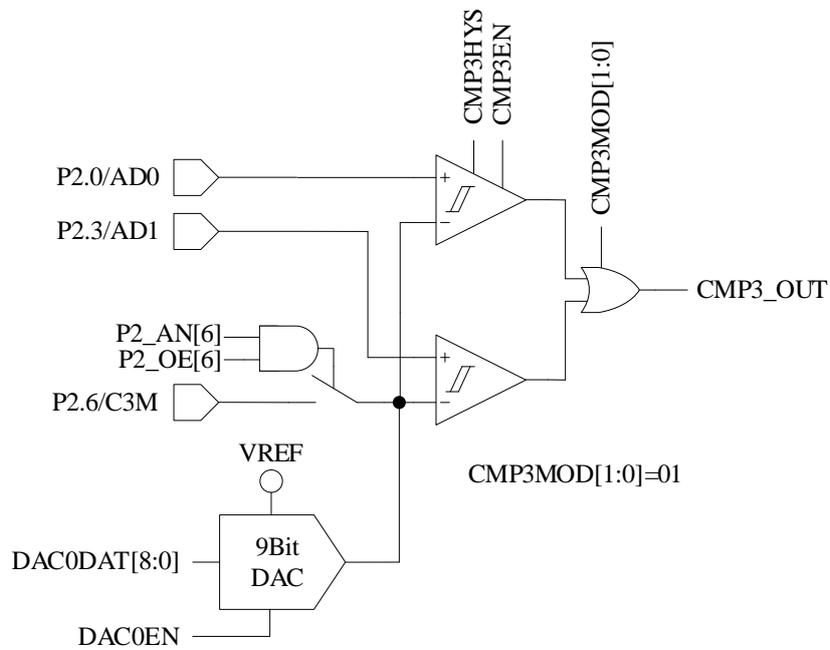
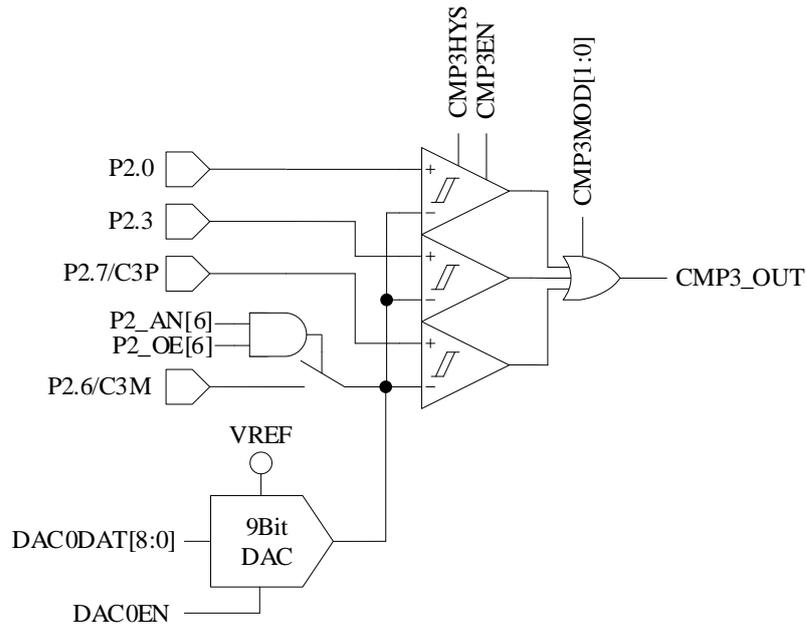

Figure 31-3 Dual-comparator Input Mode
Figure 31-4 Triple-comparator Input Mode
- When CMP_CR1[CMP3MOD] = 01, CMP3 works in Dual-comparator Input Mode. The connection of input and output pins are shown in Figure 31-3.
- When CMP_CR1[CMP3MOD] = 1X, CMP3 works in Three-comparator Input Mode. The connection of input and output pins are as shown in Figure 31-4.
01: Dual-comparator mode, where P2.0 and P2.3 are connected to the positive input, as shown in Figure 31-3. 1X: Three-comparator mode, where P2.0, P2.3 and P2.7 are connected to the positive input, as shown in Figure 31-4.